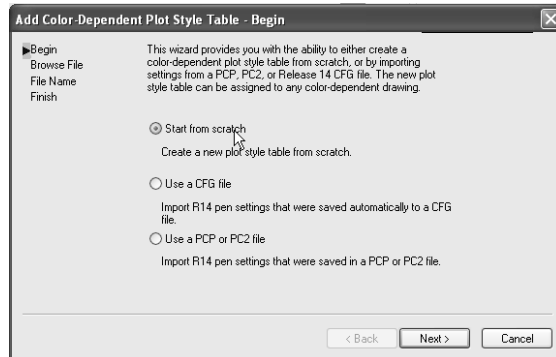

Figure 12.25
3. In the Plot Style Table group in the upper-right corner, open the drop-down list, and select New. If the current drawing uses color plot-style tables, you'll see the Add Color-Dependent Plot Style Table Wizard. If it uses a named plot style, you'll see the Add Name-Dependent Plot Style Table Wizard, as shown in Figure 12.25.